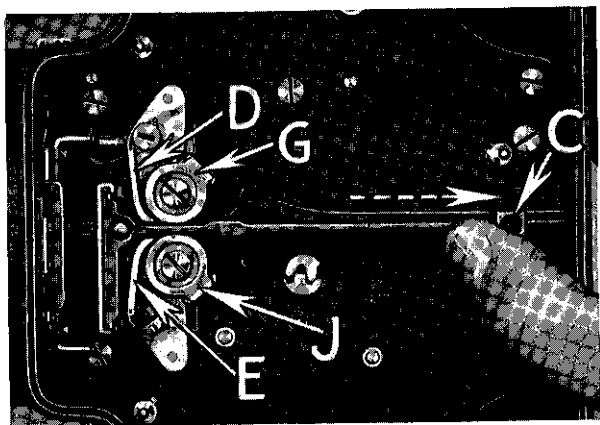

Figure 3
3. Open film gate by pushing gate arm C, Figure 3, toward the back of camera as far as it will go. An intermediate stopping point is reached when the gate is open, but the gate arm should be pushed on back until the upper and lower sprockets, G and J, are drawn away from their guide shoes—D and E, as in Figure 3.